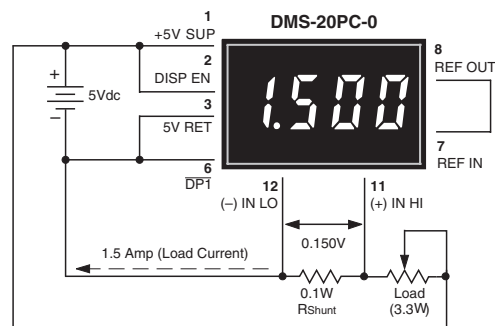

Figure 9. Basic DC Ammeter Circuit
7. Digital Ammeter: Digital ammeters are finding ever-increasing usage because analog-style ammeters (moving-vane types) now cost roughly the same as their digital counterparts. Additionally, analog ammeters are not nearly as rugged as modern digital panel voltmeters. Figure 9 illustrates a typical ammeter application. The circuit uses a $\pm 200mV$ input meter — the preferred range for most ammeters — to measure the voltage developed across a 0.1Ω current shunt. The circuit shown represents a basic ammeter connection diagram. A detailed application note describing digital dc ammeters is included in DATEL's new Digital Panel Meter Databook.